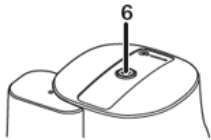
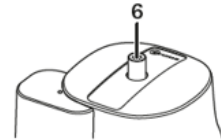

Figure 2a
Figure 2b
MonoControl has a reset button, the position of which indicates its status: "ready for operation" position (Figure 2a) or "not ready for operation" position (Figure 2b).
To reset, press the reset button (6) firmly and turn it anticlockwise as far as it can go. Ensure that the reset button (6) remains in the position "ready for operation" (Figure 2a).